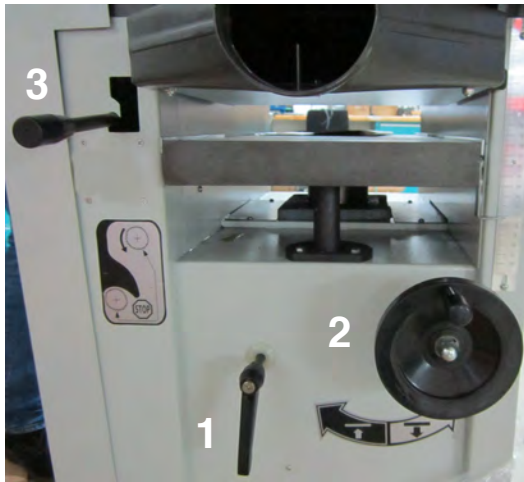

Fig. 10: Height adjustment Thickness planer table
Step 2: Loosen the clamping lever (1, Fig.10) and turn the thicknessing planer table to the desired height using the handwheel (2, Fig.10).
Step 3: Tighten the clamping lever (1, Fig.10) again.
Step 2: Loosen the clamping lever (1, Fig.8) and turn the thickness planing table at least 200 mm below the cutter block with the help of the handwheel (2, Fig.10).